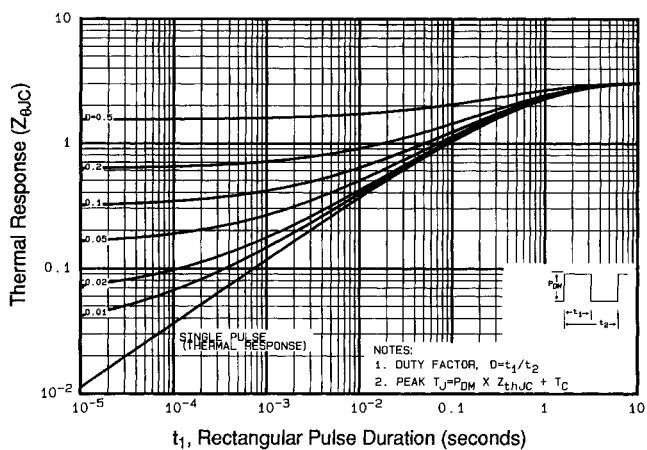

Fig 11. Maximum Effective Transient Thermal Impedance, Junction-to-Case
① Repetitive rating; pulse width limited by max. junction temperature (See Figure 11)
③ $I_{\text{SD}} \leq 18\text{A}$, $dI/dt \leq 150\text{A}/\mu\text{s}$, $V_{\text{DD}} \leq V_{(\text{BR})\text{DSS}}$, $T_J \leq 150^\circ\text{C}$ ⑤ $t = 60\text{s}$, $f = 60\text{Hz}$ ② $V_{\text{DD}}=50\text{V}$, starting $T_J=25^\circ\text{C}$, $L=6.7\text{mH}$